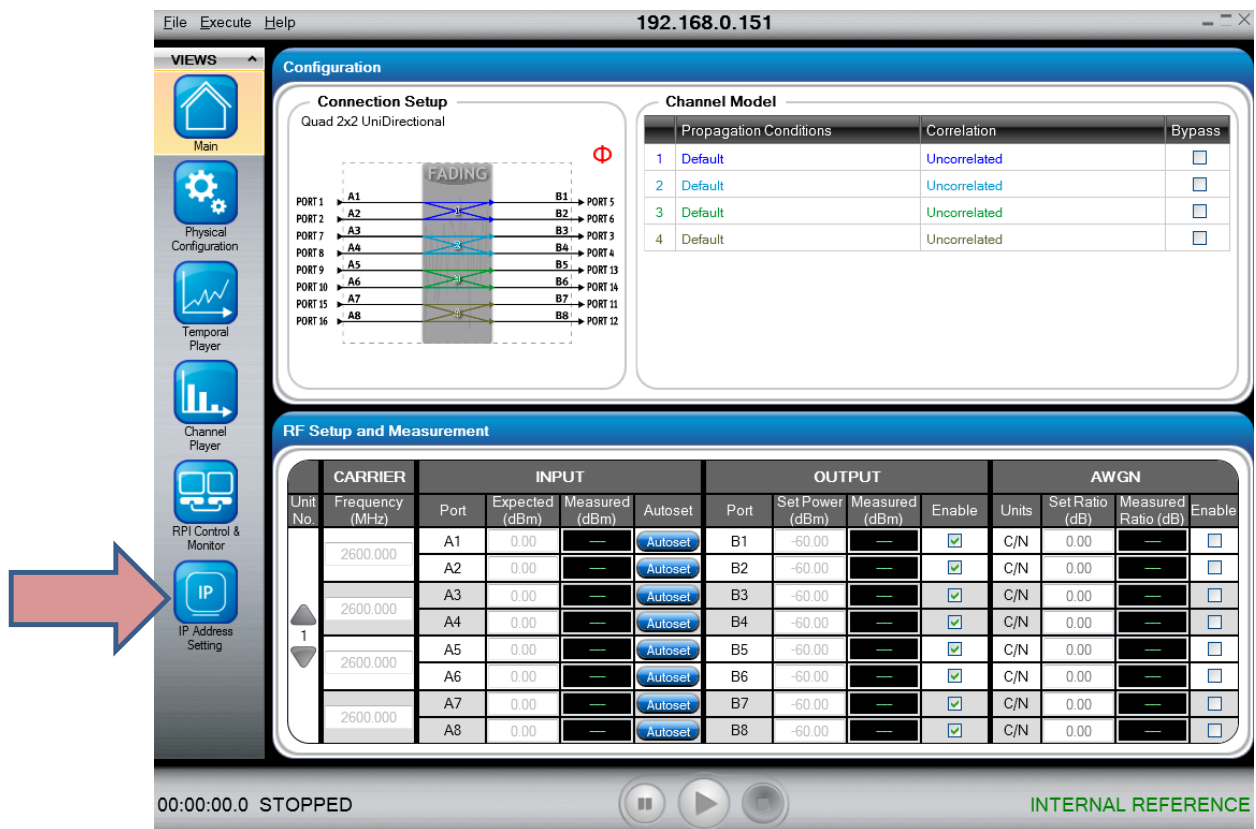

Figure 3-2: VR5 HD Spatial Channel Emulator Main Window
The *VR5 Main* window displays, as shown in Figure 3-2.
2. Using the touch screen interface, select the **IP Address Setting** button shown in Figure 3-2.
The VR5 Main window displays, as shown in Figure 3-2.